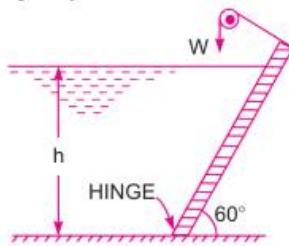

Fig. 3.54
14. A rectangular gate $6 \text{ m} \times 2 \text{ m}$ is hinged at its base and inclined at 60° to the horizontal as shown in Fig. 3.54. To keep the gate in a stable position, a counter weight of 29430 N is attached at the upper end of the gate. Find the depth of water at which the gate begins to fall. Neglect the weight of the gate and also friction at the hinge and pulley.